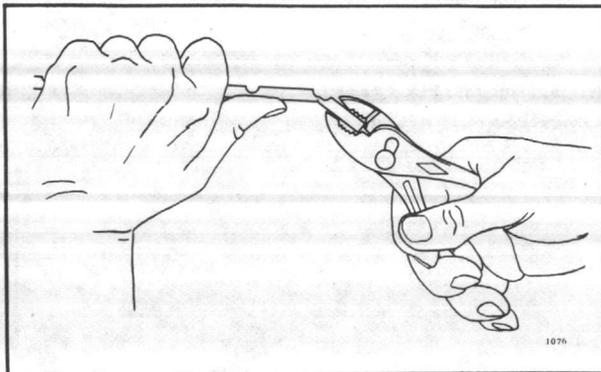

FIG. 10—REMOVING EXCESS BULB SUPPORT.
3. Break holder to desired length (Fig. 10).